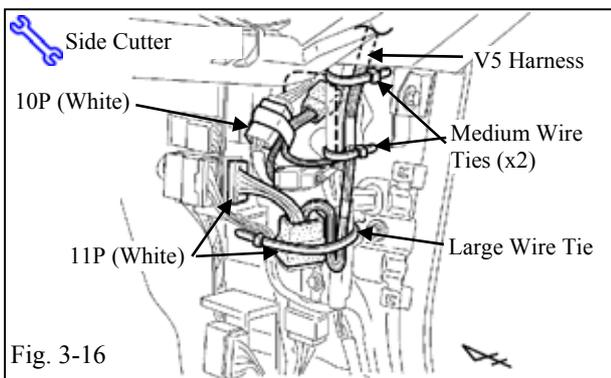

Fig. 3-16
- (x) Reconnect the vehicle's outer white 10P connector and secure it to the vehicle harness using the electrical tape. (Fig. 3-16)
- (y) Secure the V5 harness to the vehicle harness with two medium wire ties. (Fig. 3-16)
- (z) Secure the white 11P connectors to the vehicle harness with one large wire tie. (Fig. 3-16)